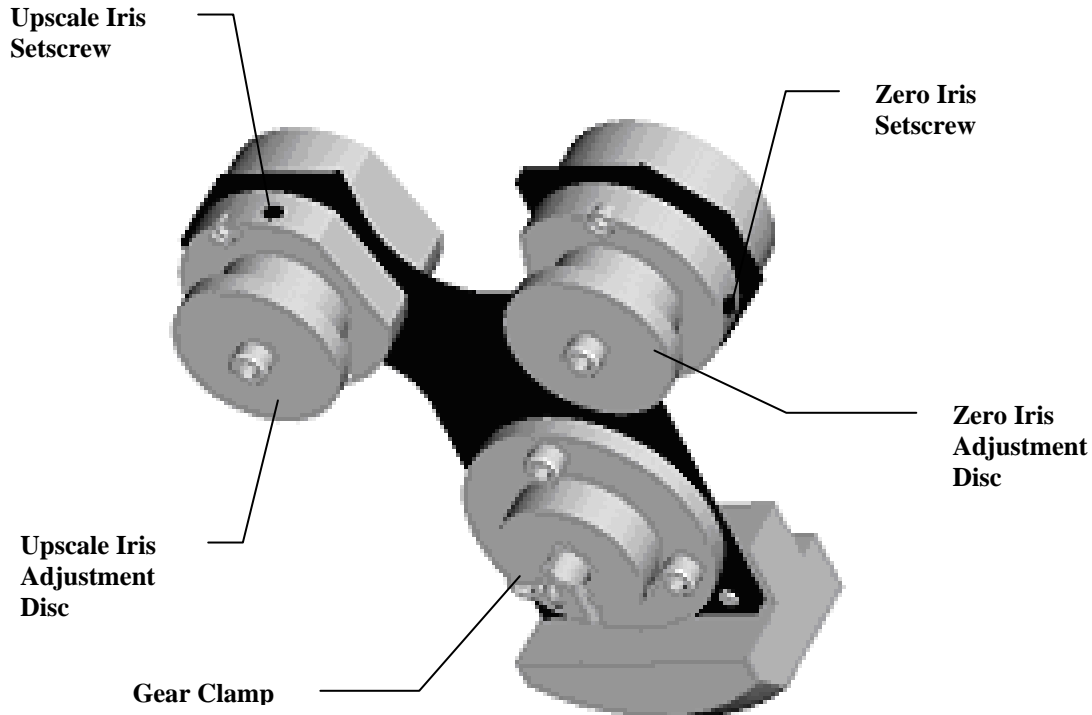

Figure 9-4
While the Optical Head hinged section is open, the simulated zero and upscale windows of the Calibration Assembly may be cleaned. The Cal Mechanism Arm Assembly can be removed by loosening the gear clamp and pulling it off the shaft. See Figure 9-4. **Care should be taken not to damage the guide pin.** Using the standard cloth and solution, clean both windows. Cotton cleaning swabs may be employed to clean hard to reach areas, so long as the lint-free cloth is used to remove any cotton fibers left by the swab. Return the Cal Mechanism Arm to the shaft making sure that the guide pin slides fully into the slot on the arm. Put the gear clamp back on and tighten.
- a) Loosen the Allen head setscrew that locks the Zero Iris in place. See Figure 9-4.
- c) Slowly rotate the disc on the rear of the Cal Zero Iris to achieve as near as possible to 0% opacity ($\pm 1\%$ on U0). See Figure 9-4
- d) Carefully lock down the Iris setscrew. See Figure 9-4.
- i) Loosen the Allen head setscrew that locks the Upscale Iris in place. See Figure 9-4.
- iii) Slowly rotate the disc on the rear of the Cal Upscale Iris to achieve as near as possible to target value (location **C1**). See Figure 9-4.
- iv) When the proper value is obtained, carefully lock down the Upscale Iris setscrew. See Figure 9-4.